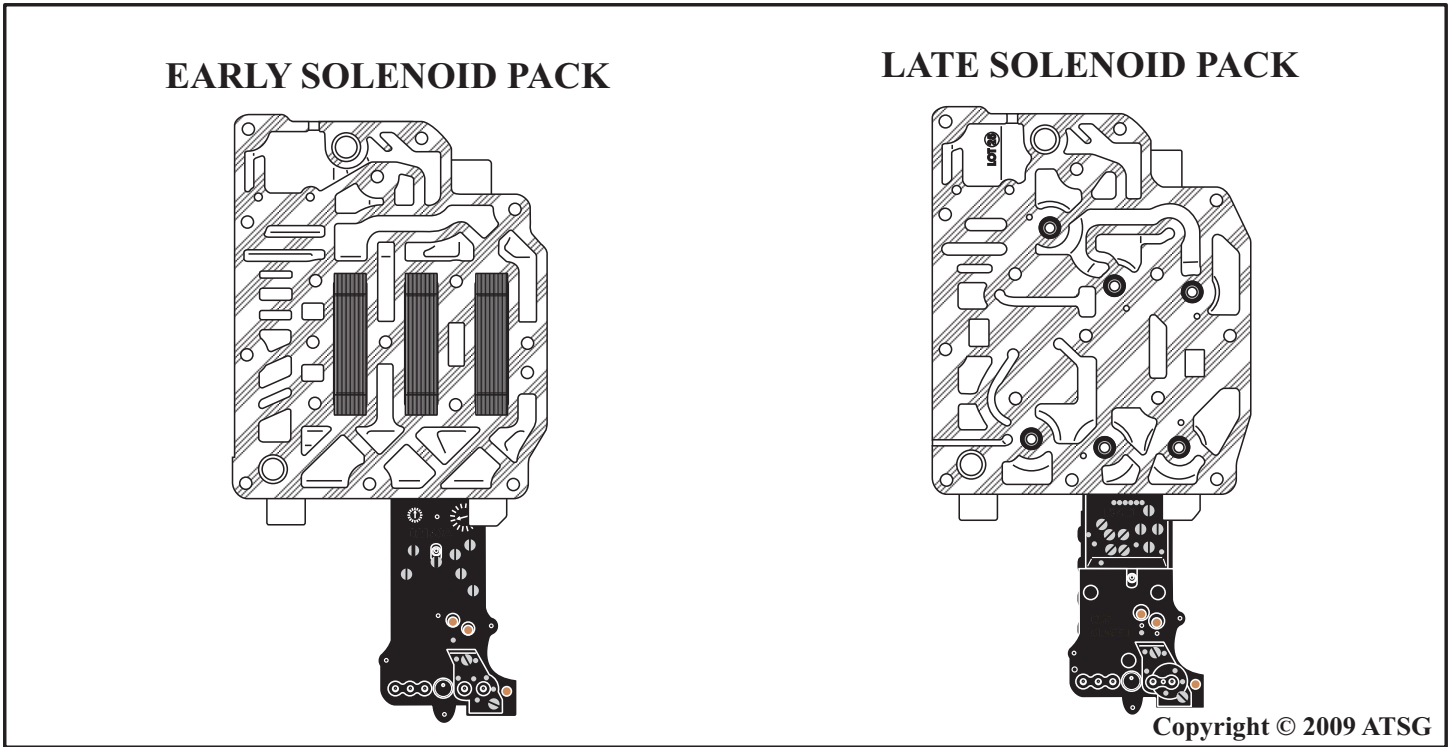

Figure 1
- (1) SOLENOID PACK - Totally re-designed casting with changes in the worm track area as shown in Figure 1.